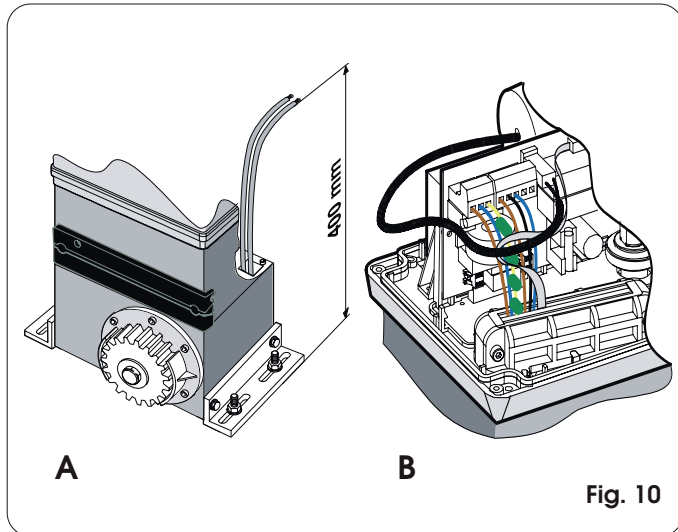

Fig. 10
- During this operation, route the cables through the duct inside the lower half-casing of the operator (Fig.10-Ref. A). To access the electronic equipment, route the cables through the appropriate hole, using the supplied rubber cable-clamp. Make absolutely sure to unsheath all the cables so that the clamp holds single cables only (Fig.10-Ref. B).